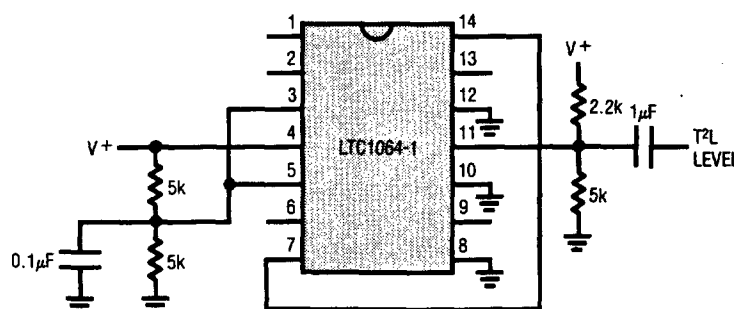

Figure 3. Level Shifting the Input T²L Clock for Single Supply Operation, V⁺ > 6V
2.2V and 3V respectively. The logic threshold levels vary $\pm 100mV$ over the full military temperature range. The recommended duty cycle of the input clock is 50% although for clock frequencies below 500kHz the clock "on" time can be as low as 200ns. The maximum clock frequency for $\pm 5V$ supplies is 4MHz. For $\pm 7V$ supplies and above, the maximum clock frequency is 5MHz. Do not allow the clock levels to exceed the power supplies. For clock level shifting, see Figure 3.